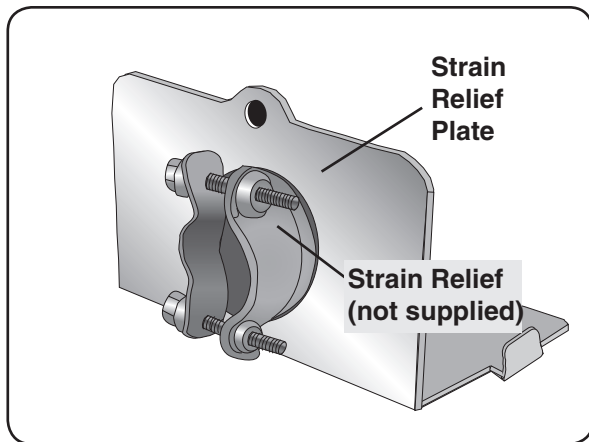

Figure 30
- 1 Retrieve the strain relief plate, and install a strain relief (not supplied) into the opening on the strain relief plate. **NOTE:** Orient the strain relief as shown in **Figure 30**.